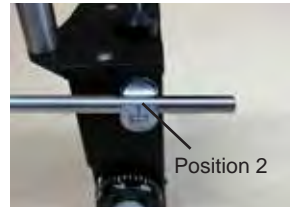

Figure CA-07 Set to 2
8. Set the calibration rod to position 2 so that the longer portion of the rod is pointing towards the examiner. Refer to Figure CA-07.